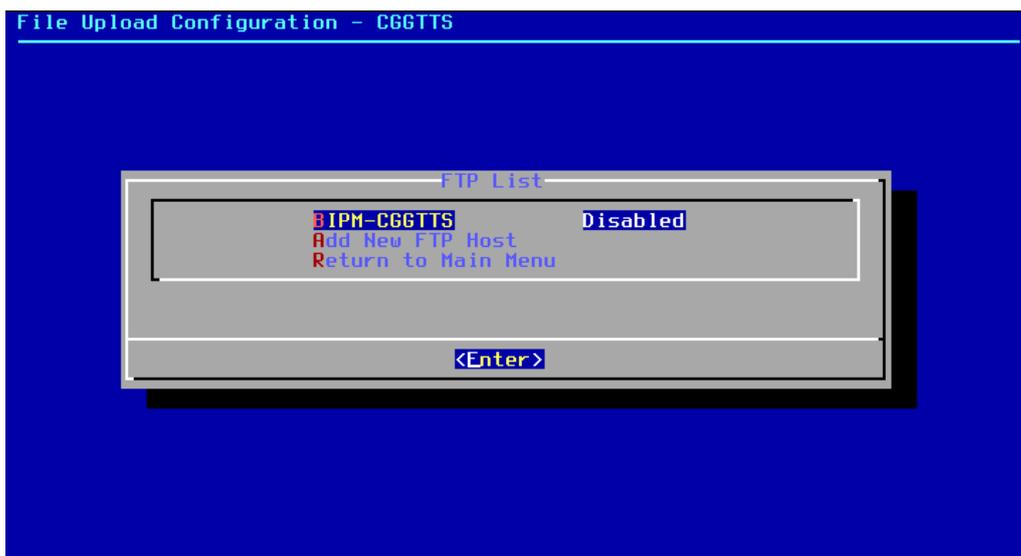

Figure 26: Automatic data upload FTP list
- Select the old pre-defined BIPM-RINEX entry (fig. 26)
- Select "Add New FTP host" (fig. 26)